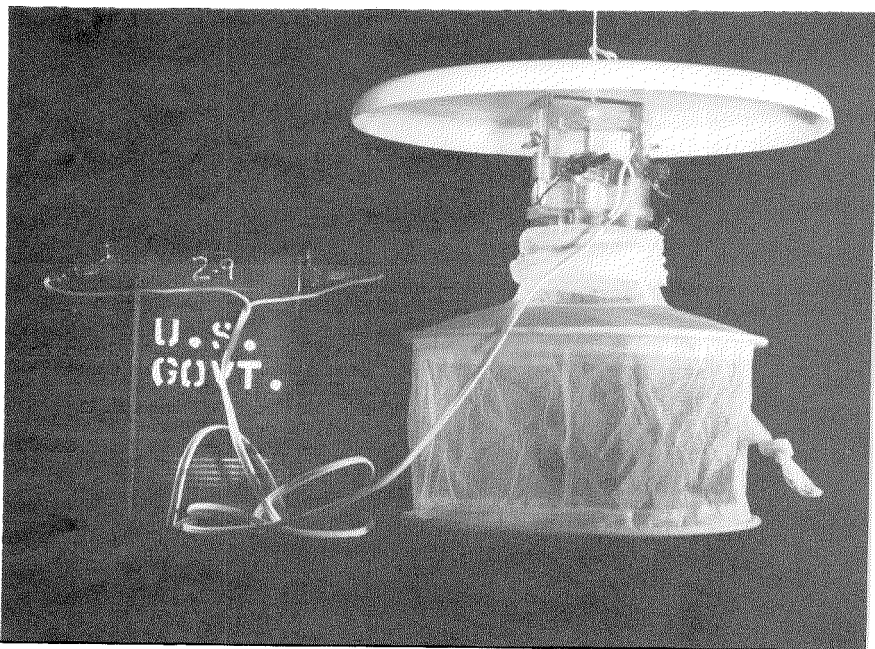
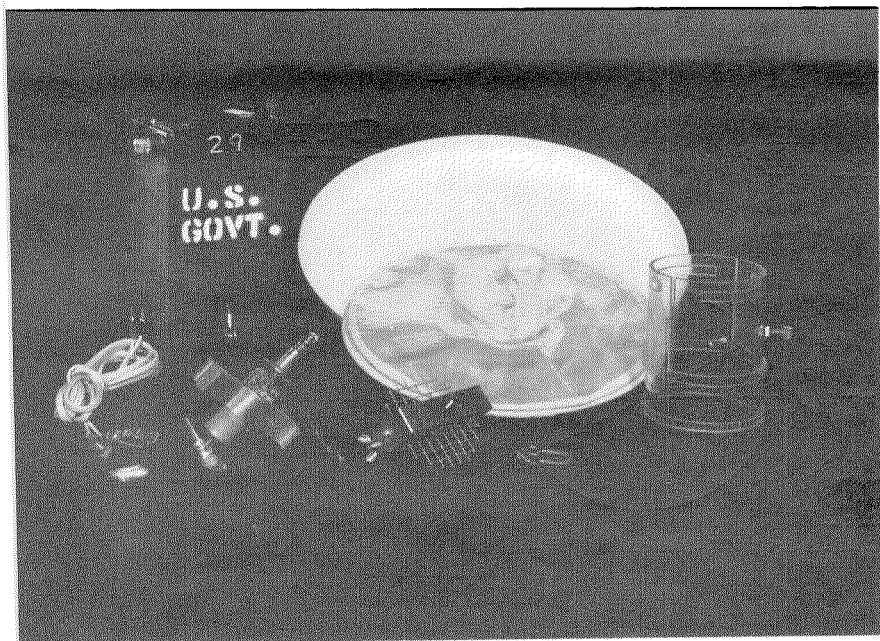

FIG. 1.—CDC Miniature light trap, assembled
FIG. 2.—CDC Miniature light trap, dismantled
The present model (Figure 1 and Figure 2) is demountable for easy transport, weighs only 1 3/4 lbs. and has a collapsible catching bag. The large overhang of the
The body of the trap (3) (Figure 2 and Figure 3) is a piece of 3 1/4" Plexiglas tubing. A slot on each side permits insertion of the motor support bracket (5) holding the motor (4). The hood support bracket (11) also fits into these slots and is held fast by two wing nuts. The lid (12) is